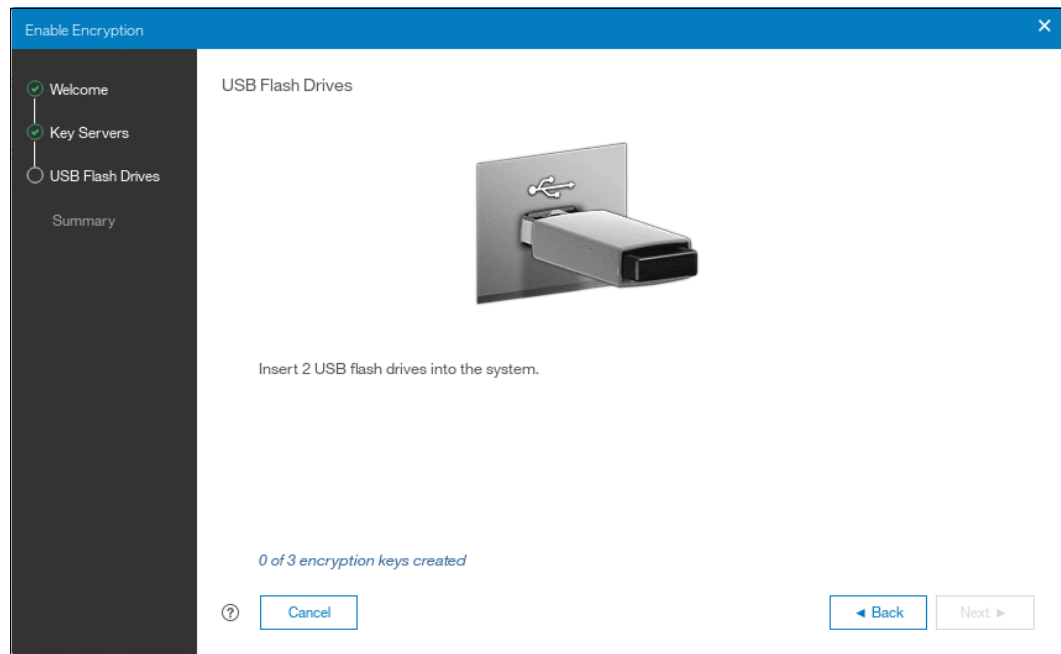

Figure 7-29 Waiting for USB flash drives to be inserted
2. If there are fewer than three USB flash drives inserted into the system, you are prompted to insert more drives, as shown in Figure 7-29. The system reports how many more drives need to be inserted.